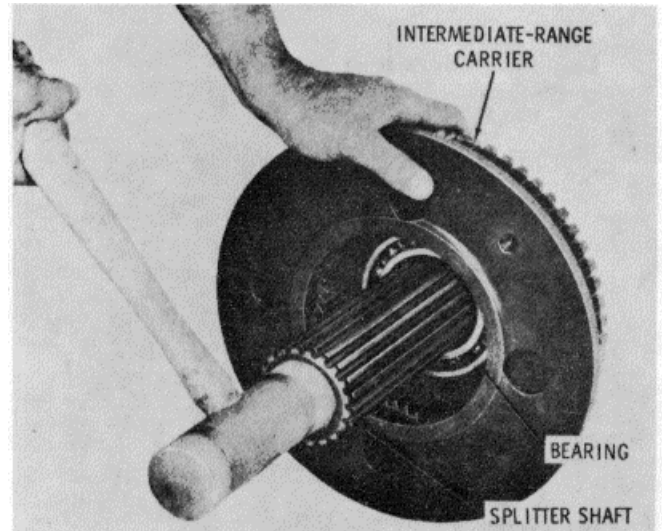
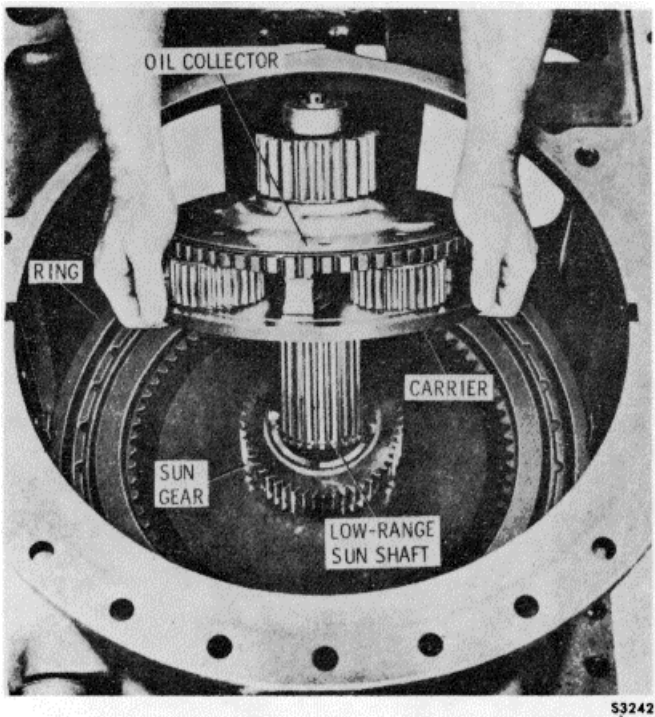

Figure 15-78. Removing Splitter Output Shaft Assembly from Intermediate Range Carrier
Figure 15-77. Removing Intermediate-Range Carrier Assembly and Components
11. Remove as a unit, intermediate-range carrier assembly, two splitter shaft bearings, oil collector ring and splitter shaft (Figure 15-77). Remove the shaft as shown in Figure 15-78. Remove the seal ring from the intermediate-range carrier assembly.